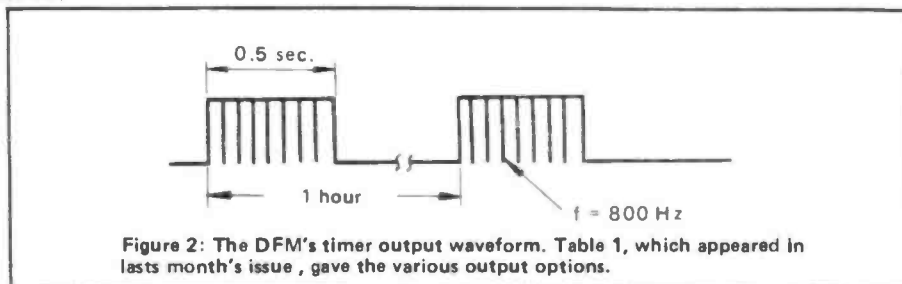

Figure 2: The DFM's timer output waveform. Table 1, which appeared in last month's issue, gave the various output options.
*Fig. 2* last month shows one of the more comprehensive switch arrays, the sleep and general timer functions are combined so that the various control functions of the relay switch are operated by either timer output.